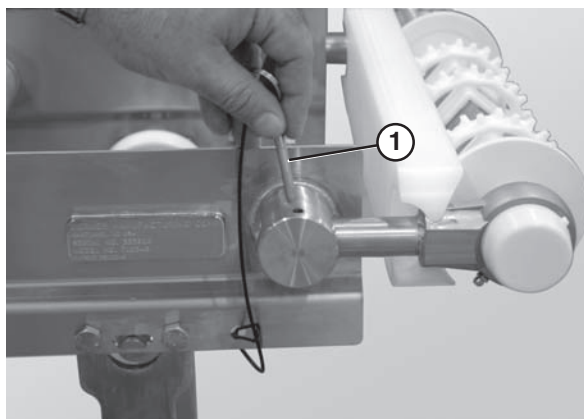

Figure 13
3. Insert the pull pins (Figure 13, item 1).